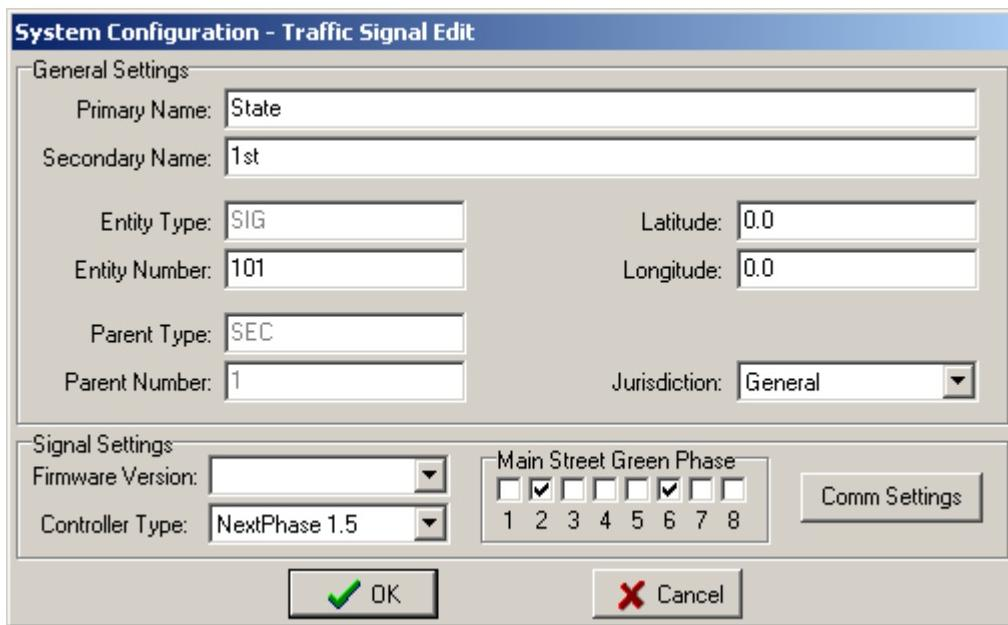

Figure 4-5: Defining a Signal
2. Select ‘SIG’ from the Object Types pull down list. Figure 4-5 will then appear.